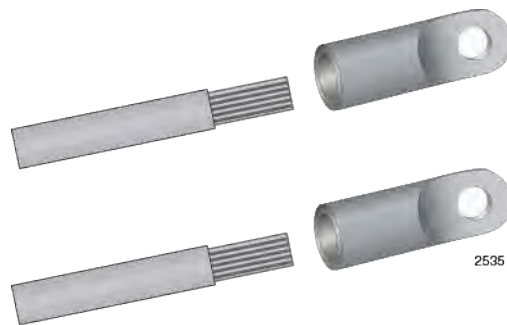

Figure 135. Attaching the Power Wires to the Straight Terminal Lugs
2. Insert the power wires into the terminals included with the power supply and use a crimping tool to secure the wires to the terminals. See Figure 135.